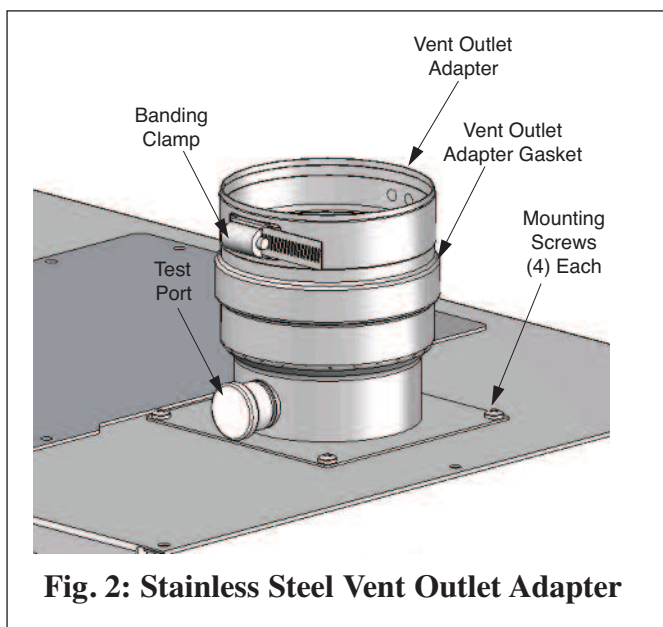

Fig. 2: Stainless Steel Vent Outlet Adapter
3. Inspect the vent outlet adaptor gasket at the top of boiler cabinet and look for signs of flue gas leakage. Replace gasket if necessary, see Fig. 2.
4. Inspect stainless steel test port (Fig. 2) for any signs of deterioration, if present replace entire vent outlet adaptor immediately.